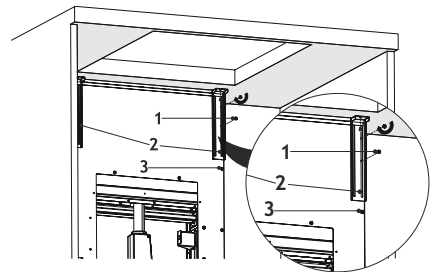

Fig. 15
5. ➔ Install the housing from the upper side using 2 short brackets supplied in installation accessories (Fig. 15)